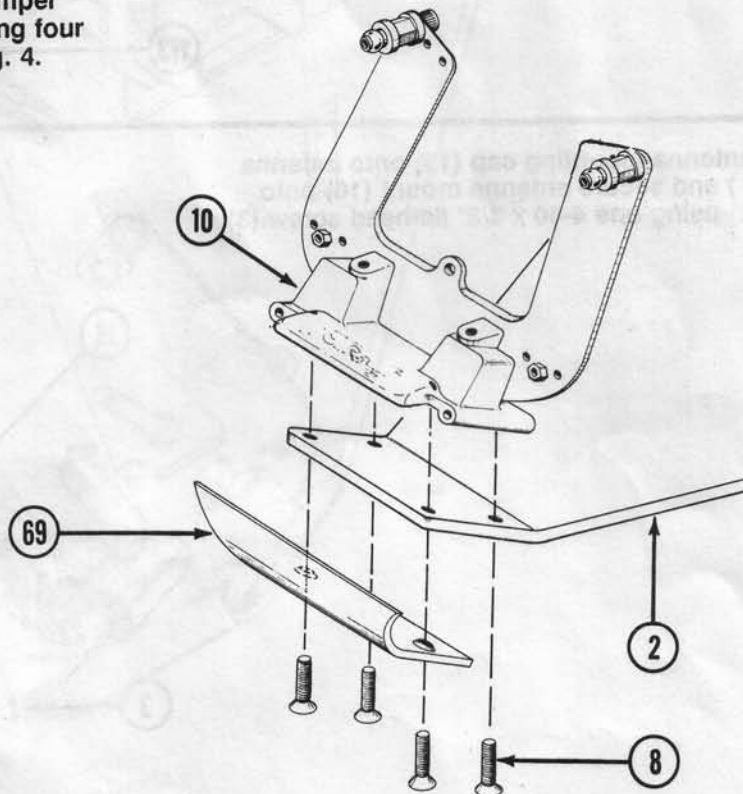

FIG. 4
10. Assemble both front bulkhead (10) and bumper (69) simultaneously to front of chassis (2) using four 8-32 x 1/2" flathead aluminum screws (8). Fig. 4.